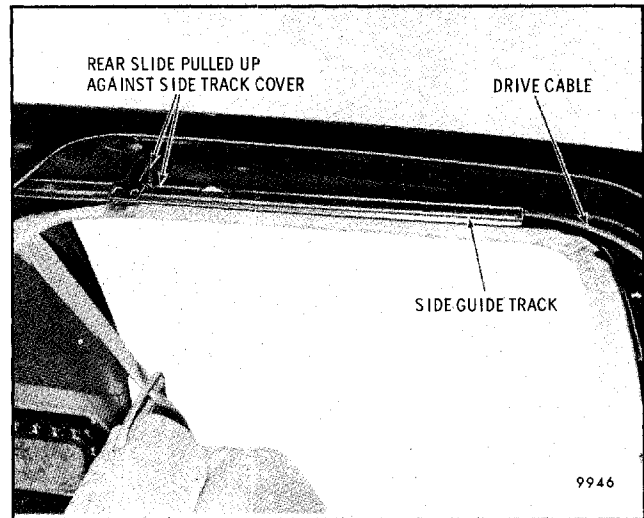

Fig. 8-116 - Rear Slide Pulled Into Timing Position - C Styles
5. Position both rear slide assemblies up against the side cable covers (Fig. 8-116).